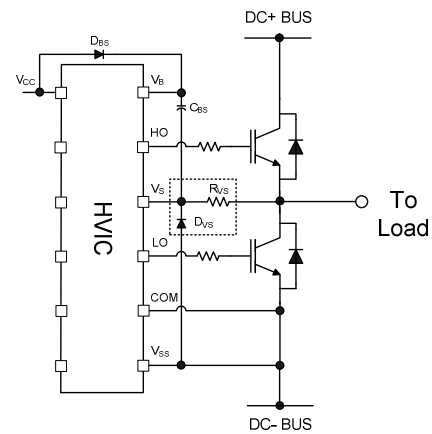

Figure 39:  $V_S$  clamping diode
**Routing and Placement:** Power stage PCB parasitic elements can contribute to large negative voltage transients at the switch node; it is recommended to limit the phase voltage negative transients. In order to avoid such conditions, it is recommended to 1) minimize the high-side emitter to low-side collector distance, and 2) minimize the low-side emitter to negative bus rail stray inductance. However, where negative  $V_S$  spikes remain excessive, further steps may be taken to reduce the spike. This includes placing a resistor ( $5\ \Omega$  or less) between the  $V_S$  pin and the switch node (see Figure 36), and in some cases using a clamping diode between  $V_{SS}$  and  $V_S$  (see Figure 39). See DT04-4 at [www.irf.com](http://www.irf.com) for more detailed information.